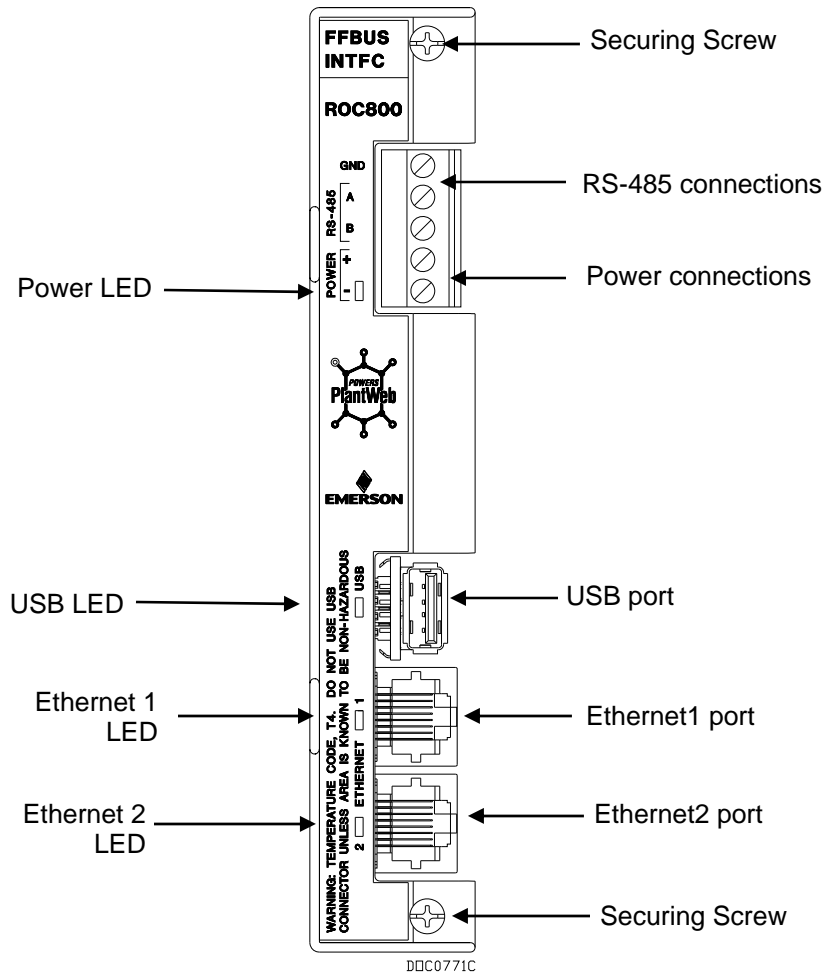

Figure 2-4. FFbus Interface CPU Front View
The FFbus Interface CPU contains the microprocessor, firmware, connectors to the backplane, two built-in Ethernet communication ports, one RS-485 communication connection, and one USB communication port (all with LED indicators), and the main processor (refer to *Figures 2-4 and 2-5*).
The status LEDs indicate the integrity of the CPU’s power and the USB and Ethernet ports. See *Figure 2-4* for LED locations; see *Tables 2-2* and *2-3* for details on LED displays.
3. Unscrew the two small screws on the front of the CPU module (see *Figure 2-4*).
4. Tighten the two screws on the faceplate of the module firmly (see *Figure 2-4*).
Apply power to the FFbus Interface. The POWER – LED indicator (see *Figure 2-4*) should light green to indicate that the applied voltage is correct.